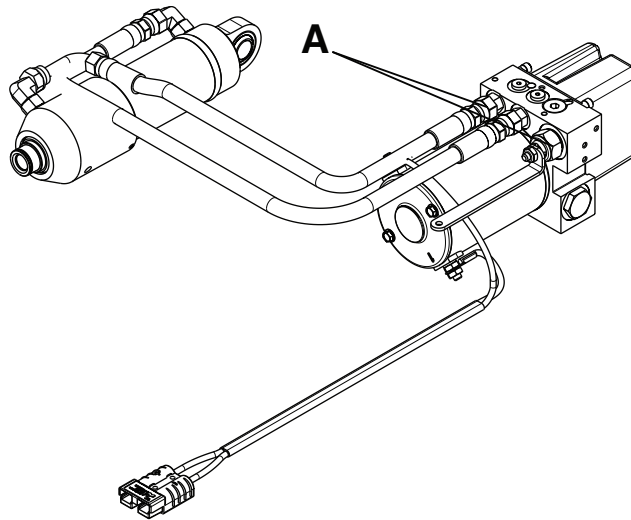

Figure 39 – Hydraulics assembly hose end connectors
3. Using two 9/16" combination wrenches, loosen (do not remove) the hose end connectors (A) from the manifold to remove both hoses (Figure 39).